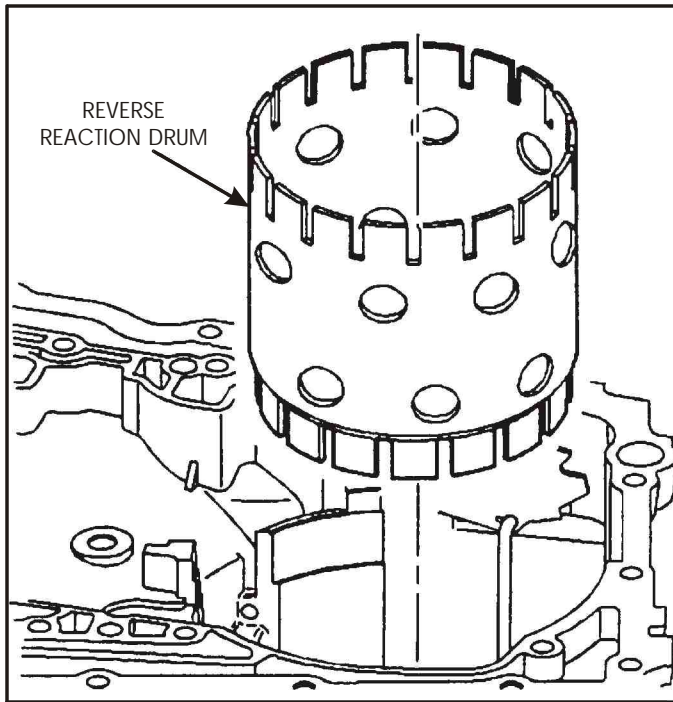

Figure 73
25. Remove the reverse reaction drum from the transaxle, as shown in Figure 73.